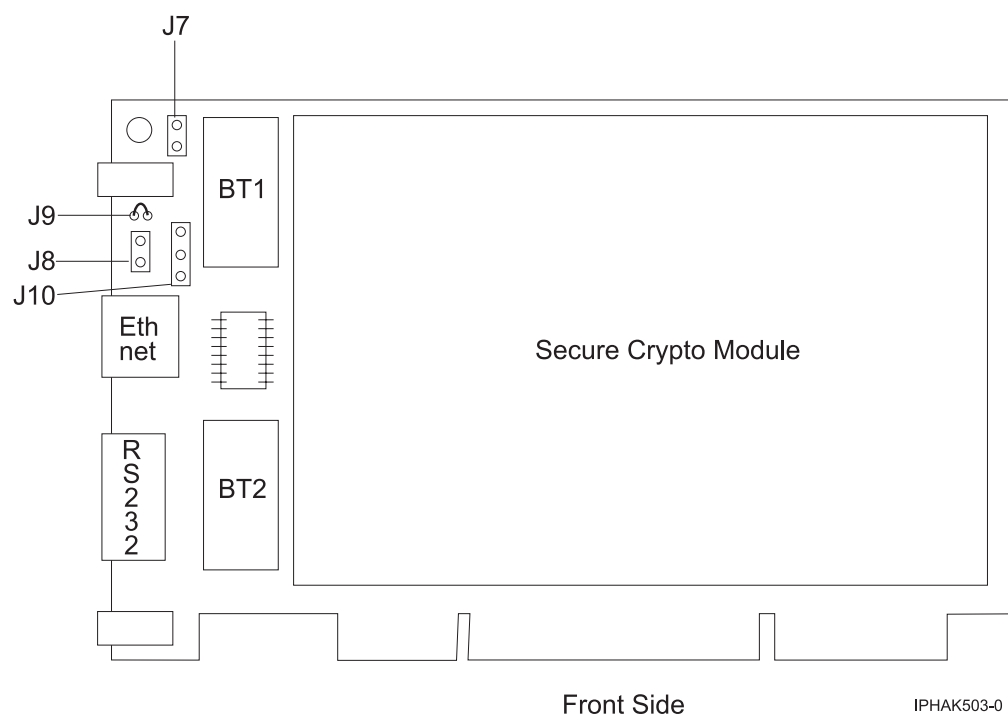

Figure 57. Front side of the adapter
6. Insert one of the new batteries into the battery tray provided with the kit. Align the + on the battery with the + on the battery tray (the end with the red wire). Connect the tray wires to the J10 connector located near the RS-232 serial port, as shown in Figure 57 on page 197. The connector is polarized to ensure a correct connection.